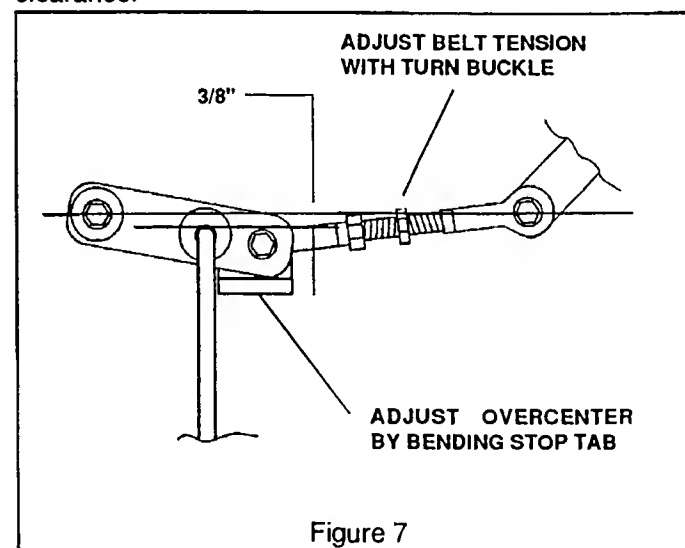

Figure 7
11. Push the mower engagement lever forward until the over-center mechanism snaps into place. Check the over-center spacing as shown in figure 7. Check belt guide, adjust if necessary. Adjust belt tension as shown in figure 2 after over-center spacing is set. Reinstall belt cover.
Engage the blade clutch lever and check for proper over-centering. There should be about 3/8" between rod and straight edge (See fig. 7). Bend the stop tab to adjust the clearance.